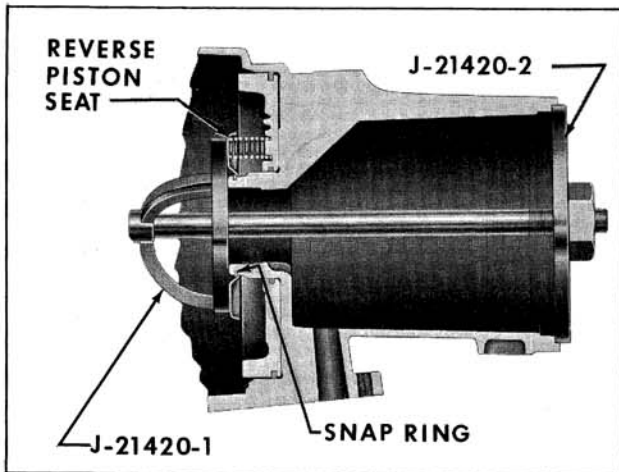

Fig. 6-382 Removing Reverse Clutch Piston
5. To remove reverse piston, center Tool J-21420-1 on reverse piston return seat. Install Flat Plate J-21420-2 over threaded shaft at rear of case. Position webs of tool away from end of snap ring. Tighten nut to compress piston return seat; then remove snap ring with Pliers J-5586. (Fig. 6-382)